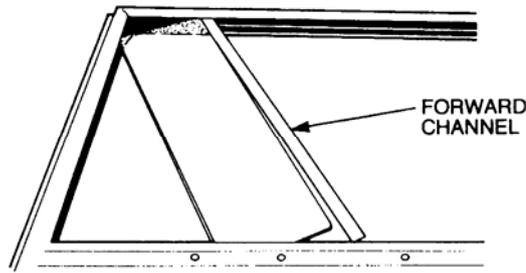

Figure 35 Quarter Window Glass Removal
- uu. Pull the forward channel from the glass (refer Figure 35).